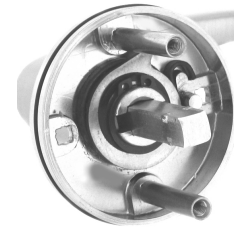

Fig 3
1. Remove the passage set cover plates (M) from the passage set backplates and set aside
2. Place the small screws (I.) through the **vertical** screw holes in the lever backplate and secure to the brass posts (H) as shown in figure 3 below.
3. Place a half spindle with spring attached (B) into the spindle cavity with the spring inside the cavity (see Fig 3 above). Do the same with the other lever.